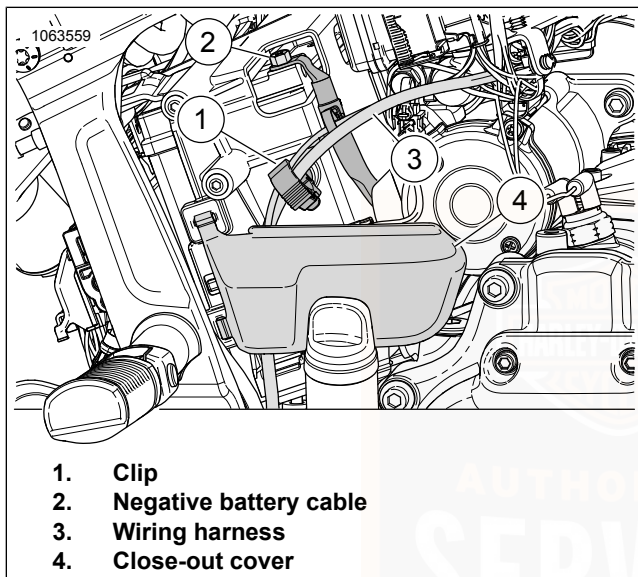
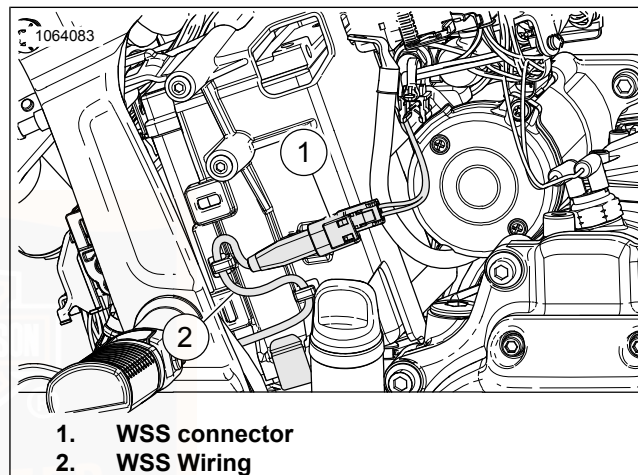
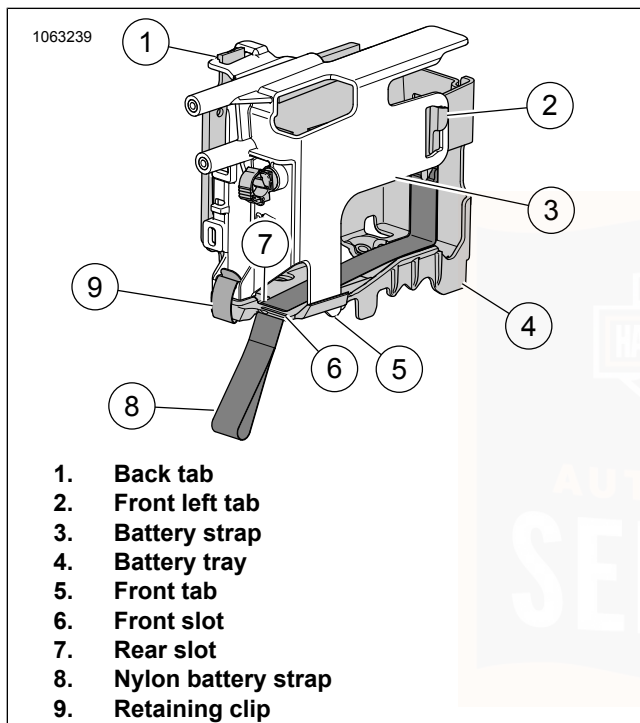

Figure 75. Negative Battery Cable and Close-Out Cover
Figure 76. WSS and Wiring
Figure 77. Battery Strap and Tray: (Removed for clarity)
3. See Figure 75. Disconnect negative battery cable (2).
4. Remove close-out cover (4)
5. Open clip (1) and position wiring harness (3) out of the way.
6. See Figure 76. Disconnect WSS (Wheel Speed Sensor) connector (1).
7. Remove WSS wiring (2) from routing tabs then remove wiring from battery strap.
8. See Figure 77. Remove battery strap.
- a. Unlock retaining clip (9).
- b. Disconnect back tab (1) from battery strap (3) to battery tray (4).
- c. Disconnect front left tab (2) from battery strap to battery tray.
1. See Figure 77. Install battery.
- a. Position nylon battery strap (8) in bottom of battery tray (4).
- b. Feed nylon battery strap into rear slot (7) of the battery tray.
4. Install battery strap (3).
- b. Connect front left tab (2) on battery strap to battery tray.
- c. Connect back tab (1) on battery strap to battery tray.
- d. Lock retaining clip (9).
5. See Figure 76. Install WSS wiring (2) to battery strap.
6. Connect WSS connector (1).
7. See Figure 75. Position wiring harnesses (3) and lock clip (1).
8. Connect negative battery cable (2) to negative battery terminal. Tighten. 72–96 **in-lbs** (8.1–10.8 N·m)
9. Install close-out cover (4).